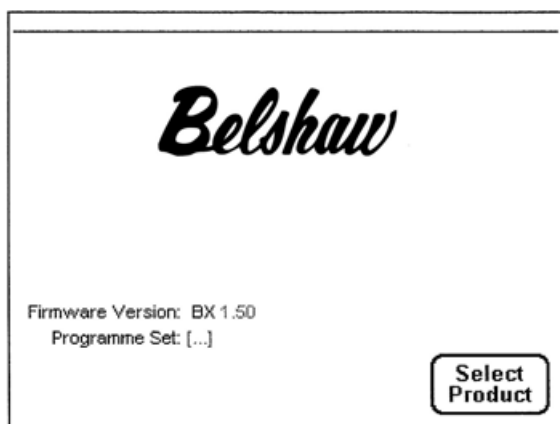
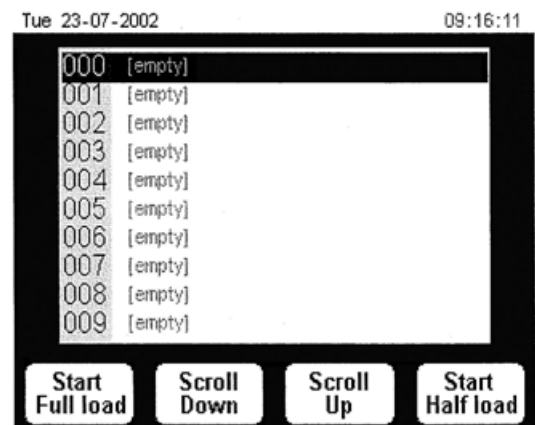

Figure 2-1
Figure 2-2
3. Turn on the oven by pressing the green button and the following screen will appear (Figure 2-1):
4. Press Button 4 (which corresponds to the “select product” option in Figure 2-1) and the program list will appear (Figure 2-2). If the oven has not been programmed, see the section on programming on page 3.
- 9. Upon pressing the Stop button, the screen will revert to the program screen (Figure 2-2).